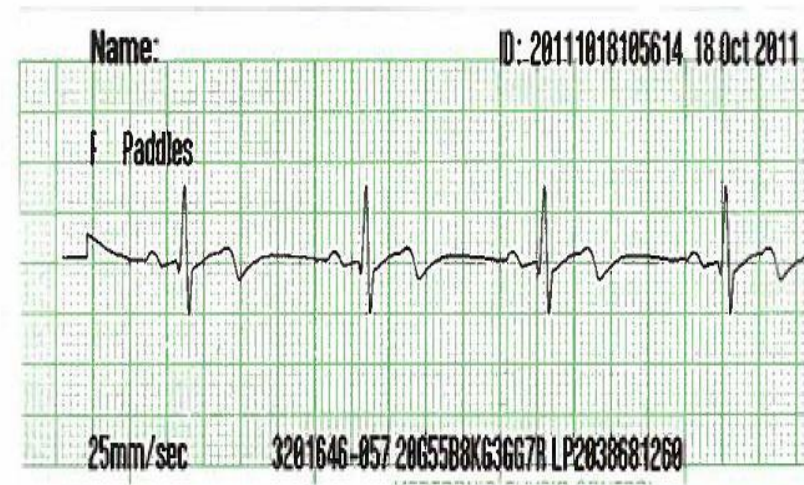

Figure 1.24: A Positive R-Wave
6. Confirm the R-Wave polarity on the paper matches image as shown in Figure 1.24.